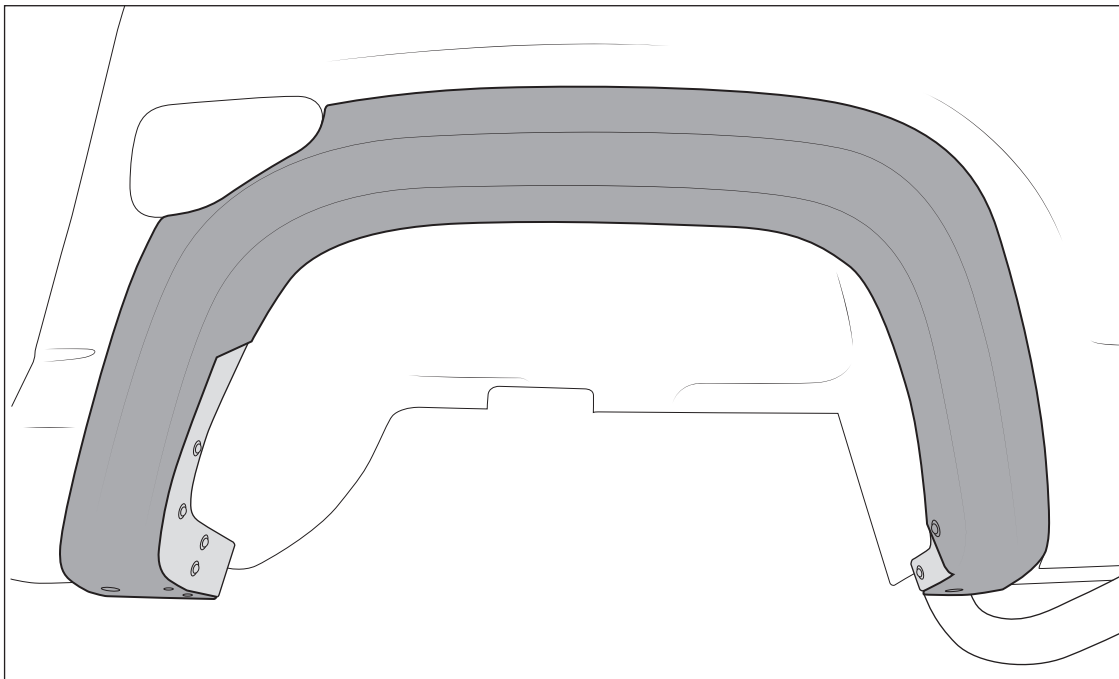

Figure 19
2. Secure fasteners shown (fig. 19)